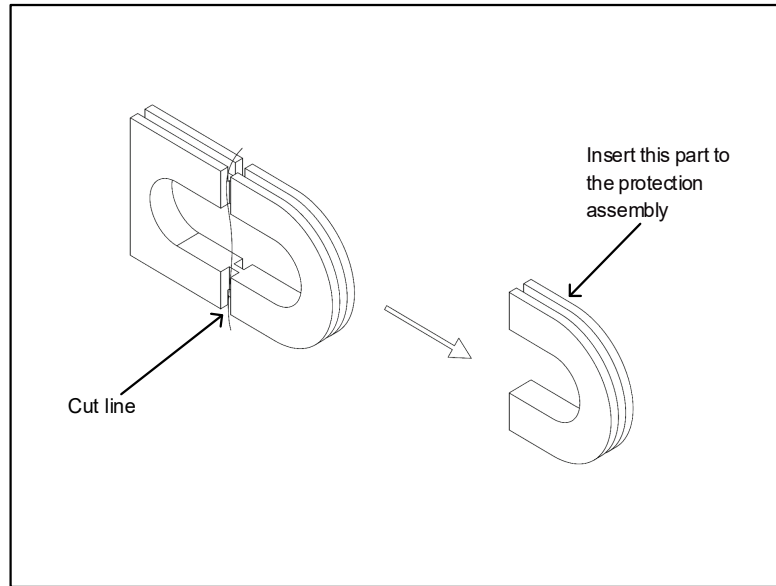
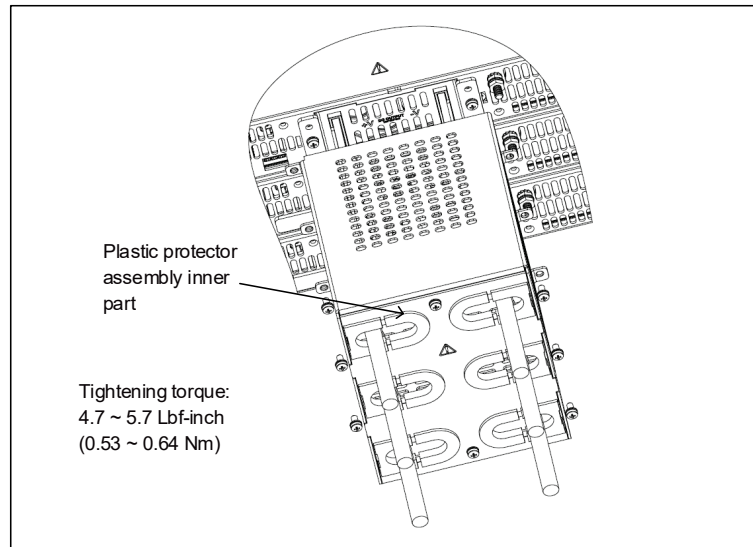

Figure 4-16: Plastic Protectors Separation
Figure 4-28: Assembly of 60V ÷ 100V Wires Protection Cover
4. Remove & separate each plastic protector into two parts by cutting the plastic bridge between both parts, as shown in Figure 4-16.
5. Insert back to the protection assembly only the specified part, as shown in Figure 4-16.
In case thicker wires are required, separate the plastic protector assembly and install only the inner part, refer to Figure 4-28 and Figure 4-16.